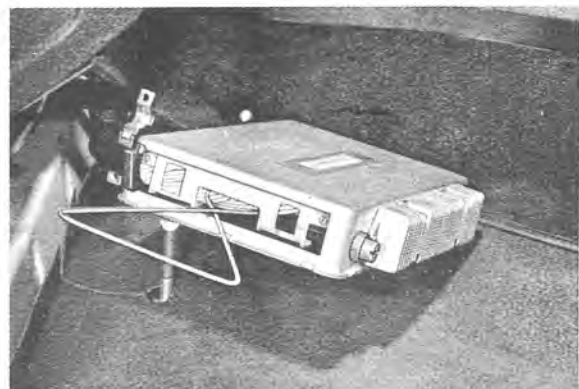

Fig. 2-136. Removing plug contact
5. Make a puller as shown in Fig. 2-135. Hook in the puller, see Fig. 2-136, and pull out the plug contact carefully.